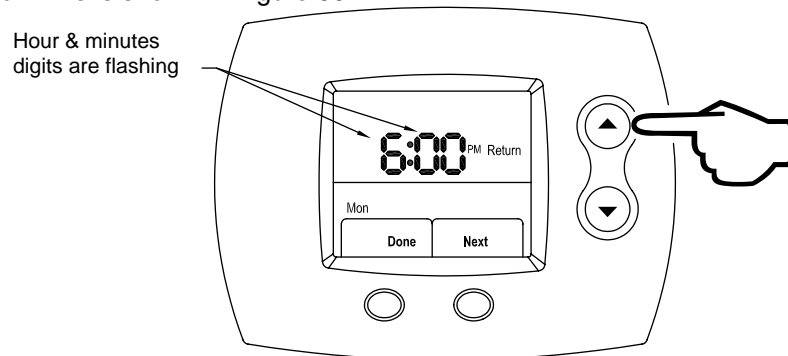

Figure 90
Step 16: Press the **UP** (increase time by 15 minutes) or **DOWN** (decrease time by 15 minutes) buttons to edit the time that this period becomes active. The time increments in 15-minute intervals just as it did for the Wake period. This is shown in Figure 90.